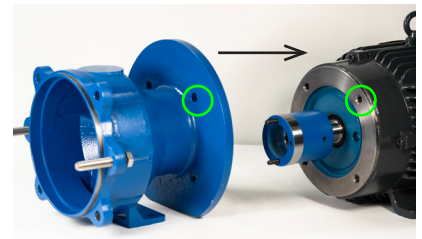

figure 3
8. Slide the motor adapter over the shaft adapter and secure the motor face using hex head bolts (Items 30 & 31) and lock washers. See figure 3.